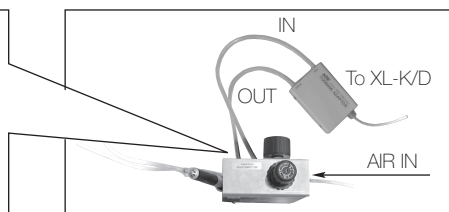

Fig.5
Insert the plug of the Turbine Adapter into the ③ Turbine Adapter Connector at the back of the unit. Insert two hoses from the ③ Turbine Adapter into the openings for foot pedal connection in the air line kit. (Fig. 5)